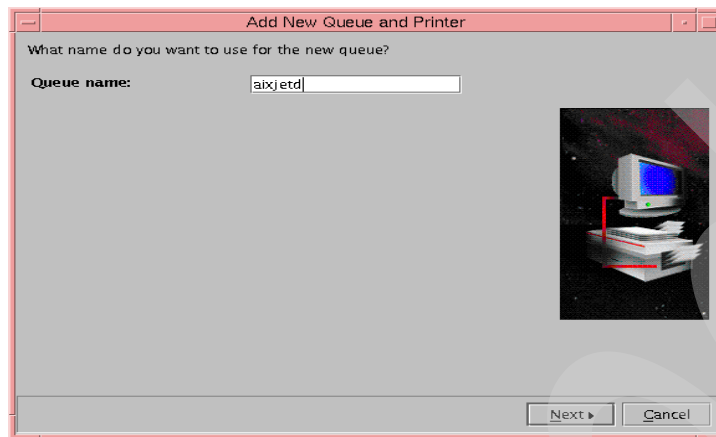

Figure 73. Name of new JetDirect-attached printer
When you select either of the two options above, you will see the panel shown in Figure 73.
3. In Figure 73, we defined an HP LaserJet 4M printer with the internal JetDirect card with a name of aixjetd and clicked **Next**. The following panel was displayed: